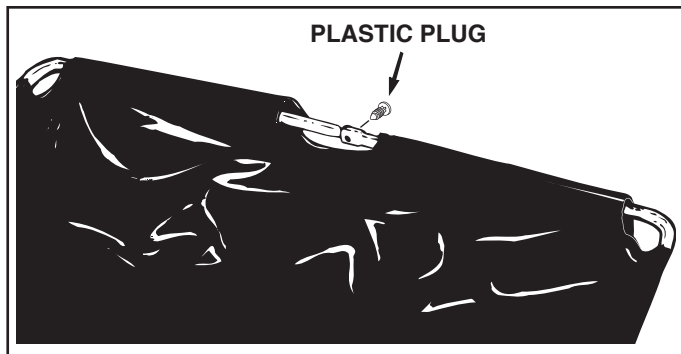

FIGURE 11
- Fasten the upper hopper tubes together by inserting a plastic plug into the center holes. See figure 11.